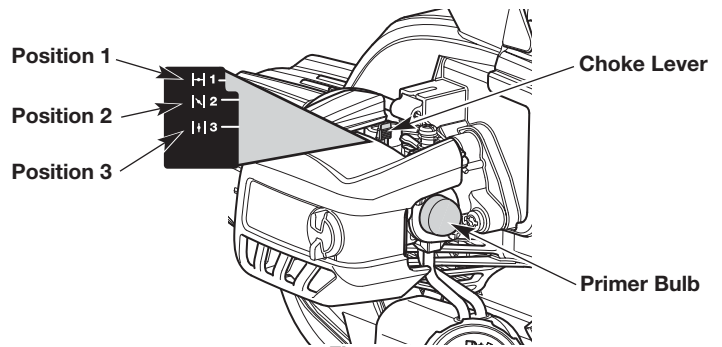

Fig. 11
3. Slowly press and release the primer bulb **10 times** (Fig. 11). If fuel cannot be seen in the primer bulb, press and release the primer bulb until fuel is visible.
4. Move the choke lever to **Position 1** (Fig. 11).
7. Continue to press the throttle lock-out and squeeze the throttle control. Move the choke lever to **Position 2** (Fig. 11).
10. Continue to press the throttle lock-out and squeeze the throttle control. Move the choke lever to **Position 3** (Fig. 11) and continue warming the engine for an additional 60 seconds. The unit may be used during this time.
IF... the engine hesitates, return the choke lever to **Position 2** (Fig. 11) and continue the warm-up.